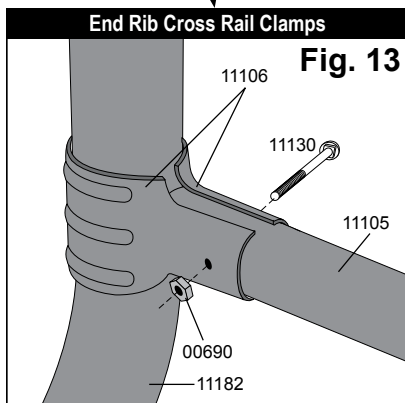

Fig. 13
**B.** When the cover is tight from end to end install the 45” cover rails. Insert the cover rails into the pockets of the cover. Clamp the rails to the ribs using the 3-way and 4-way clamps as shown in Fig. 13 & 14.